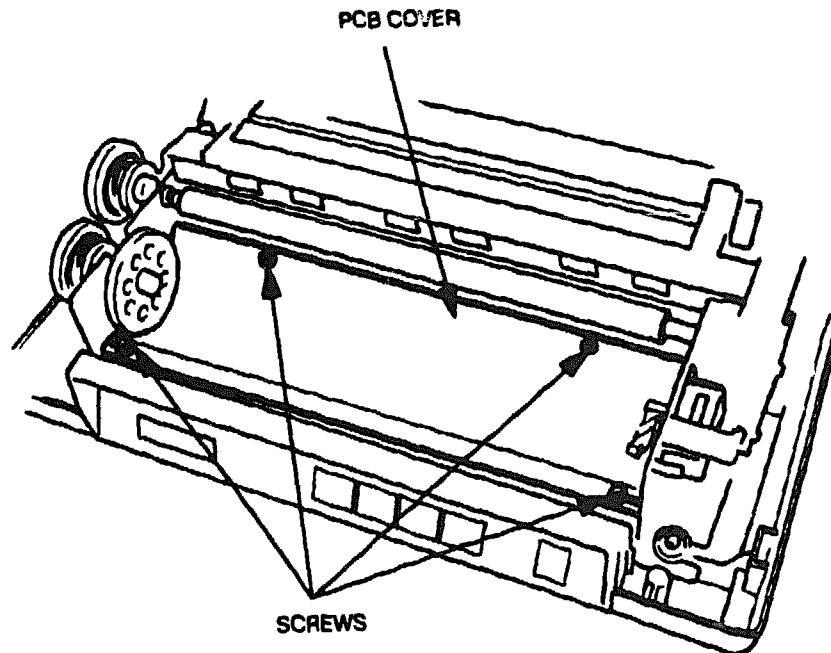

Figure 6-4 PCB Cover Screws
3. Remove the four screws shown in Figure 6-4 securing the PCB cover to the printer base.